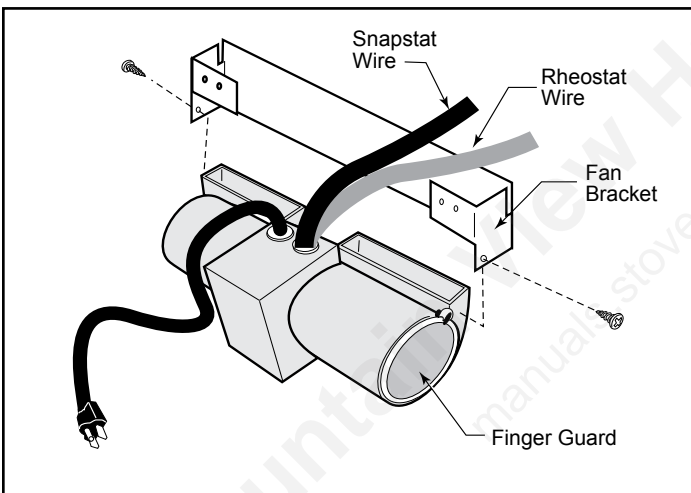

Figure 59 - Attach the fan assembly to the fan bracket.
1. Attach the fan assembly to the fan bracket provided in the log box. Use #10 sheet metal screws provided with fan kit. Do not remove finger guard screws. (Figure 59)